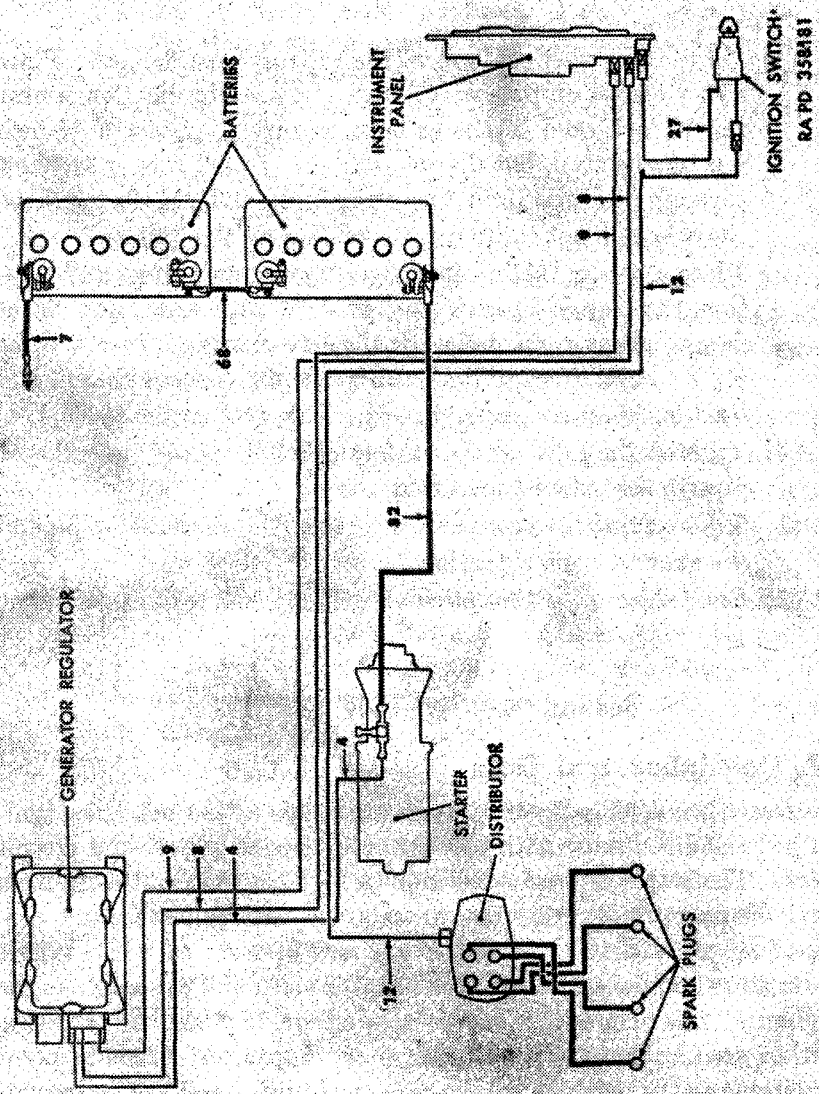

Figure 75. Ignition system components and cables identification (ME38AJ).
a. Description. The ignition system consists of the batteries, ignition switch, distributor with coil assembly, spark plugs, and circuit cables. The batteries are discussed in paragraph 162 and the ignition switch in paragraph 181. The distributor with coil assembly consists of the distributor, two capacitors, and ignition coil, in a single unit mounted on the right side of the engine block and driven from the oil pump. The primary, or low voltage circuit includes the batteries, ignition switch, breaker points, primary capacitor, breaker point capacitor, and the primary windings of the ignition coil. The secondary, or high voltage circuit, consists of the secondary winding of the coil, distributor rotor, distributor cover, cap assembly, spark plug cable assemblies, and spark plugs. The entire ignition system is waterproofed and includes devices for suppressing radio interference as described in paragraph 280. Ignition system components and cables are identified in figures 75 and 76.